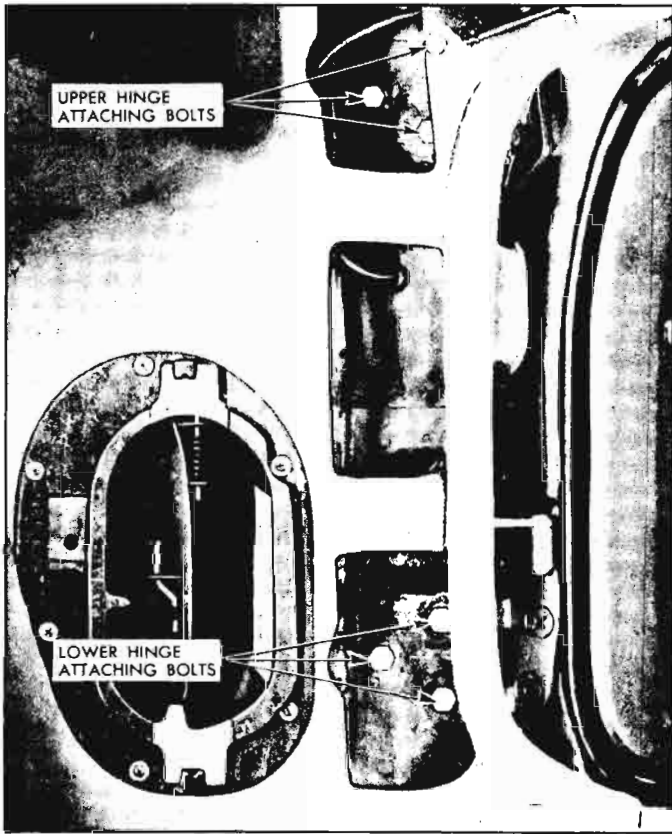

Fig. 10-47—Front Door Hinge Attachment at Cowl
4. With aid of helper to support door properly, remove bolts securing upper and lower hinges to front body hinge pillar as shown in Figure 10-47, then remove door assembly with attached hinges from body.
3. Loosen hinge attaching bolts shown in Figure 10-47. Shift door to desired position, then tighten hinge attaching bolts.